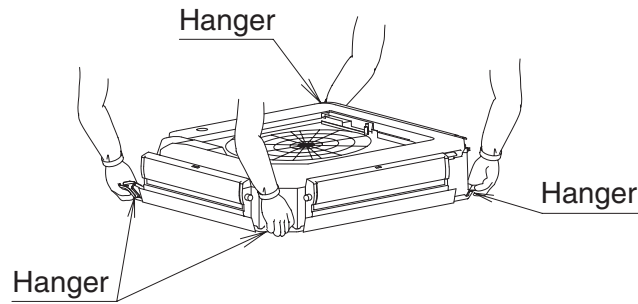

Fig. 9
- When carrying the indoor unit, hold it by the hanging metal fittings. (Refer to Fig. 9)